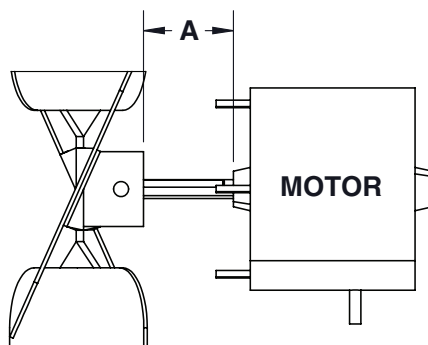

Figure 5. Fan and Motor Spacing (Refer to Table 5)
6. Ensure that fan is in proper position on shaft (see Figure 5) and that setscrew is tightened in accordance with torque listed in Table 5.
*See Figure 5.